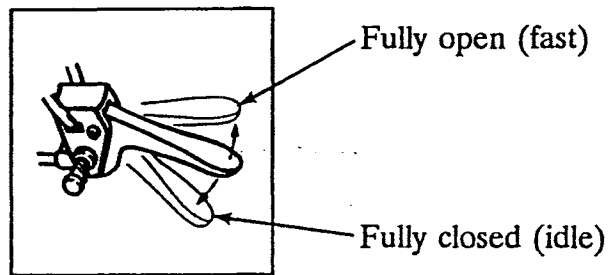

Figure 8
1. Put the throttle in fully closed (idle) position. See Figure 8.